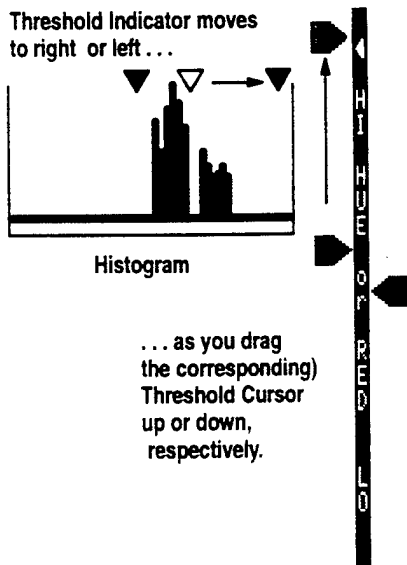

Figure 3. Easy adjustment of color definitions right on screen.
**Color Definition Adjustment.** For even greater control, you can fine tune the newly "learned" color to meet your exact needs. The Color CVIM module's logical on-screen menus and natural-feeling light pen make it easy. For example, to change a key threshold value, just drag a cursor up or down a slide bar on the screen. See Figure 3 for an example of the threshold adjustment interface.